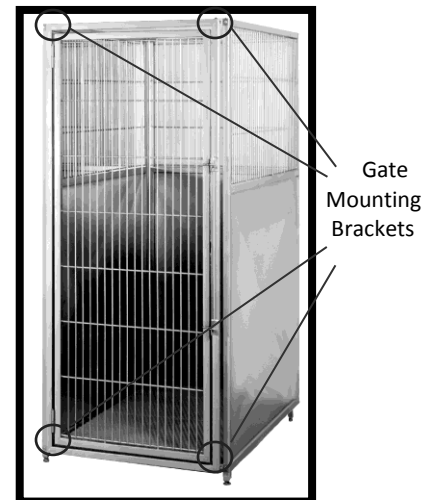

Figure 81: Swinging Gate Mounting Brackets
3. With a 1/2 in. wrench, remove the cap screws that hold the swinging gate assembly to the brackets on the pen system (Figure 81).